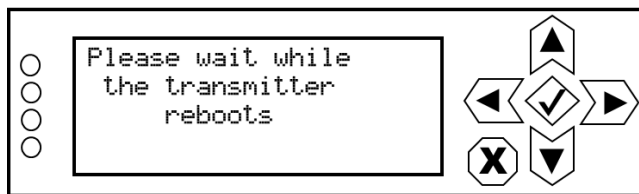
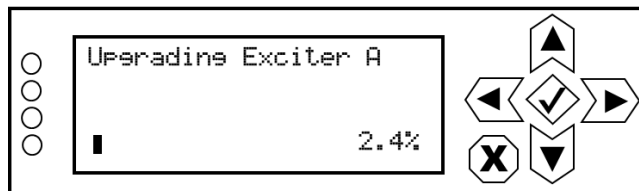

Figure 13: Controller UI – ‘Please wait while the transmitter reboots’ screen
Figure 14: Controller UI – ‘Upgrading Exciter A/B’ screen(s)
DO NOT turn off ac to the transmitter until the AUI login screen appears and the controller UI either displays 'Upgrade successful' (see Figure 13) or one of the failure screens shown in Figure 14. Turning off ac power to the transmitter prior to this point could result in the transmitter becoming inoperable.
If the upgrade of any component (exciter, rack, etc.) is initially unsuccessful, the system will automatically retry the update to that component and the controller UI will display messages indicating this. DO NOT interrupt this process or the transmitter may become inoperable. If all attempts fail, the controller UI will display one or more of the 'Unable to upgrade' screens shown in Figure 14 and the AUI will reboot. If one of these screens appears, proceed to step (m).
- (f) When the DSP image update is complete, the controller UI will display the screen in Figure 13. The reboot takes approximately two (2) minutes.
- (g) When the reboot is complete, the controller UI will display the screen in Figure 14. This upgrade may take up to 15 minutes for each exciter (A and B, if applicable) in the transmitter.